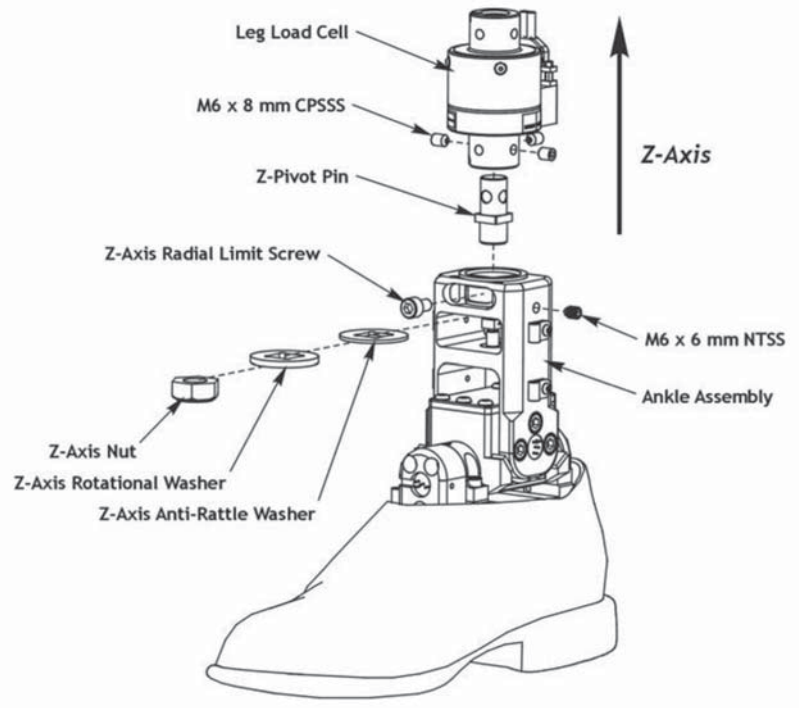

Figure A.87 — Ankle adjustment
The ankle assembly (Figure A.75, Item 2) is attached to the lower leg assembly with the “Z”-pivot pin, anti-rattle washer, rotational washer, and z-axis nut (Figure A.74, Items 6, 7, 8, and 9, respectively) (see Figure A.87 for a clearer diagram of the ankle to lower leg assembly). These components shall be in place in the ankle before the lower leg assembly can be attached.
Once the lower leg assembly is installed on the ankle, the washers and nut can be tightened until the z-axis movement is eliminated. Then, with the leg flesh orienting block (Figure A.74, Item 12) positioned toward the rear (posterior) of the assembly, install the z-axis radial limiting screw (Figure A.74, Item 5 or Figure A.87).
- The ankle rotation friction is controlled by a M6 set screw and a M14 lock nut (z-axis nut) (see Figure A.87).